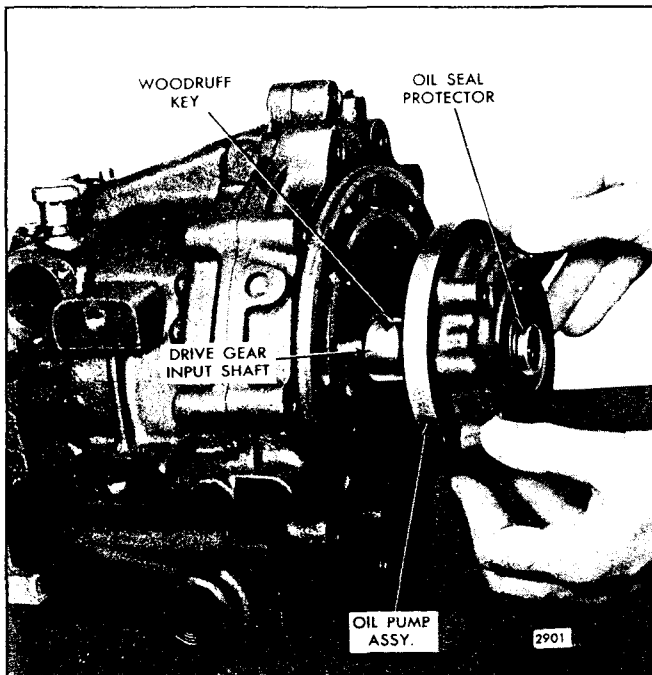

Fig. 87 - Installing Oil Pump Assembly on Input Shaft and Adaptor
gear input shaft in a horizontal position and the top side of the reverse gear housing facing up (Fig. 87).
- g. Start the oil pump assembly with the oil seal lip protector in place, straight over the end of the shaft as shown in Fig. 87; then, push the oil seal lip protector against the shoulder on the shaft. Push the oil pump assembly in and enter the Woodruff key in the shaft straight in the keyway in the inner rotor (gear); continue to push the oil pump assembly in against the gasket in the counterbore of the adaptor.